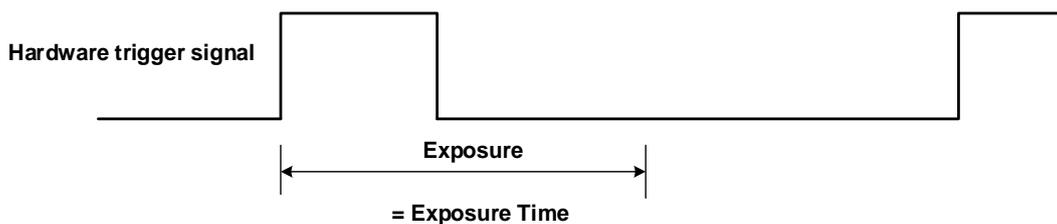

Figure 8-24 The sequence diagram in rising edge trigger of Timed exposure mode
- If rising edge triggering is enabled, exposure starts when the trigger signal rises and continues until the exposure time has expired, as shown in Figure 8-24